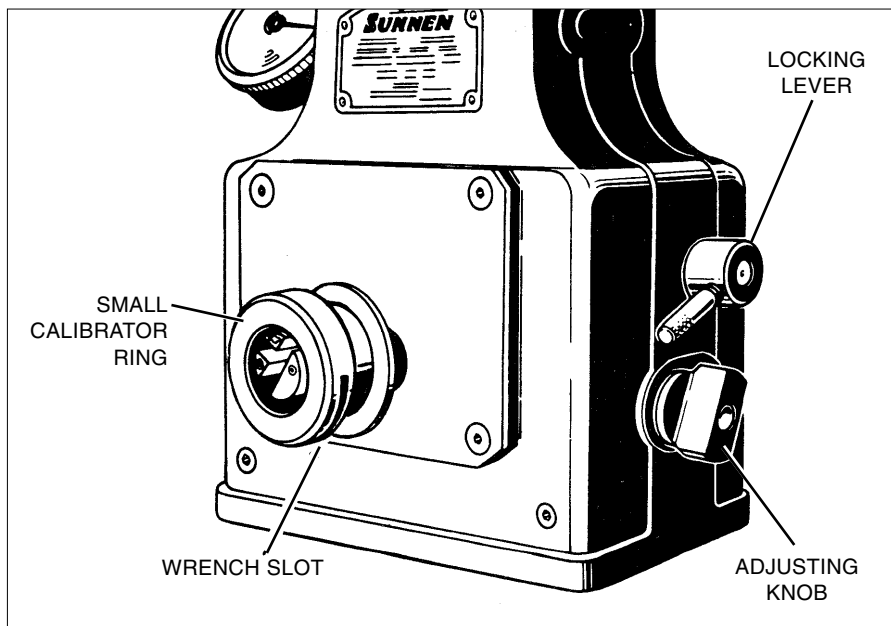

FIGURE 3
4. Place calibrator ring flat against face plate on gage as shown with wrench slot at bottom and directly under centralizer point (see Figure 3).